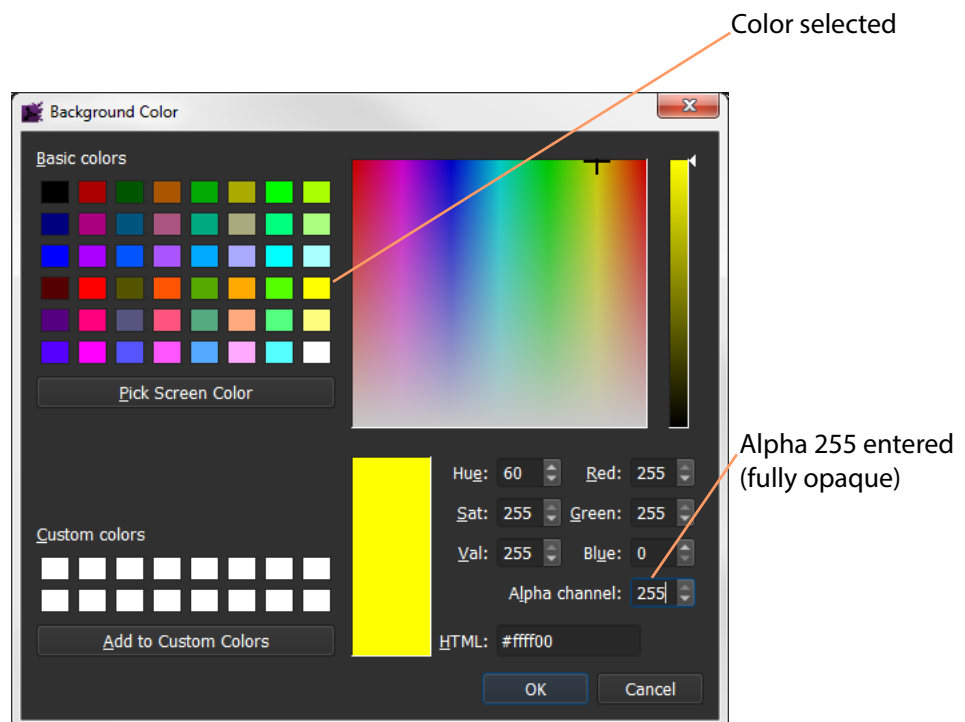

Fig. 9-20: Color Picked
- 6 Click on the ... icon to show the **Background Color** dialog. See Figure 9-20 on page 89.